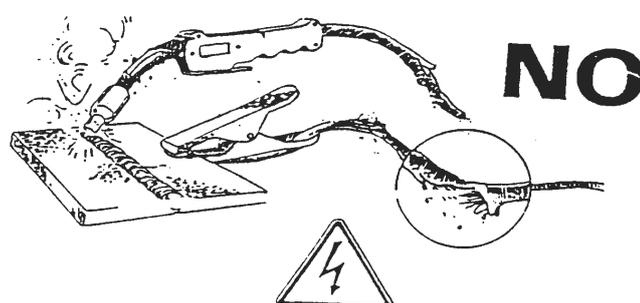

FIG.8
- do not use damaged welding or input cables (Fig. 8);